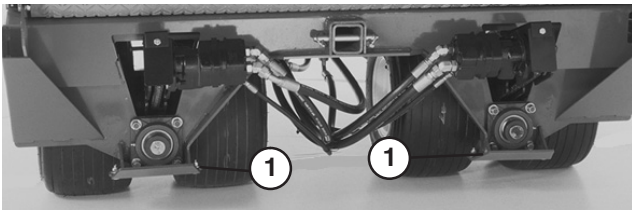

Figure 6
1. Mount a skid to each mounting bracket with (2) carriage bolts, flat washers and locknuts. Position skids as shown in figure 6.